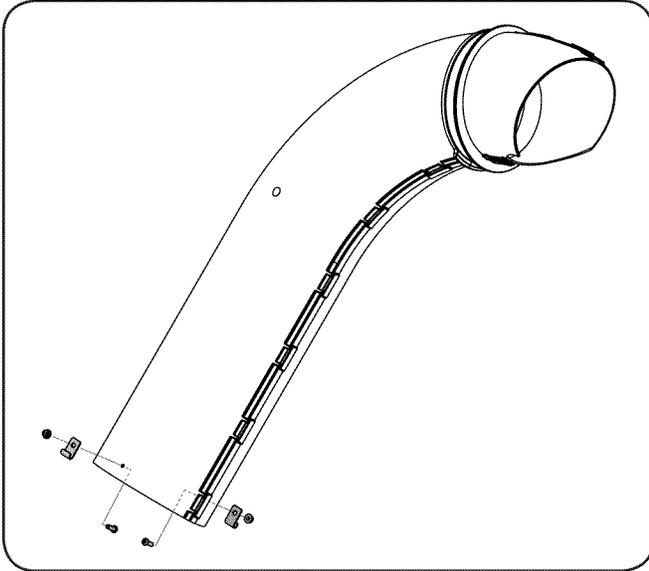

Figure 4-19
3. Install two 16606 retainer hooks from hardware pack 689-00147A, onto the chute tube, as shown in Fig. 4-19. Feed the 710-04064 cap screw through the chute tube from the inside, then through the retainer hook and secure with a 712-3027 flange lock nut.